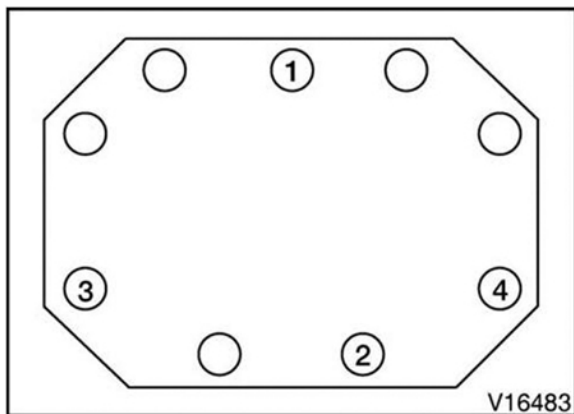

Figure 24 Bolt Tightening Sequence
2. Torque four new M8 x 30 heat-resistant bolts to 45 lb-in (5 N·m) (Figure 24).